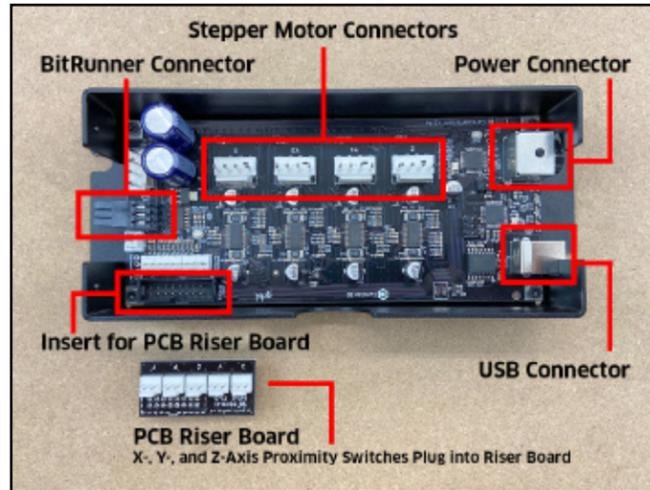

Figure 7-5
WARNING: When removing the enclosure cover, pry open from the USB/power end first, then open like a book to avoid damaging the protruding Bitrunner connector. See **Figure 7-5**.
2. Plug the PCB riser board into the 2×8 bank of pins in the **BOTTOM-LEFT** corner of the Carbide Motion board as shown in **Figures 7-5** and **7-6**.
The four stepper motor cables plug into connectors at the top of the Carbide Motion board. The three proximity switch cables plug into the PCB riser board, installed in the bottom (Y2) corner of the Carbide Motion board. See **Figure 7-5** and **7-8**.